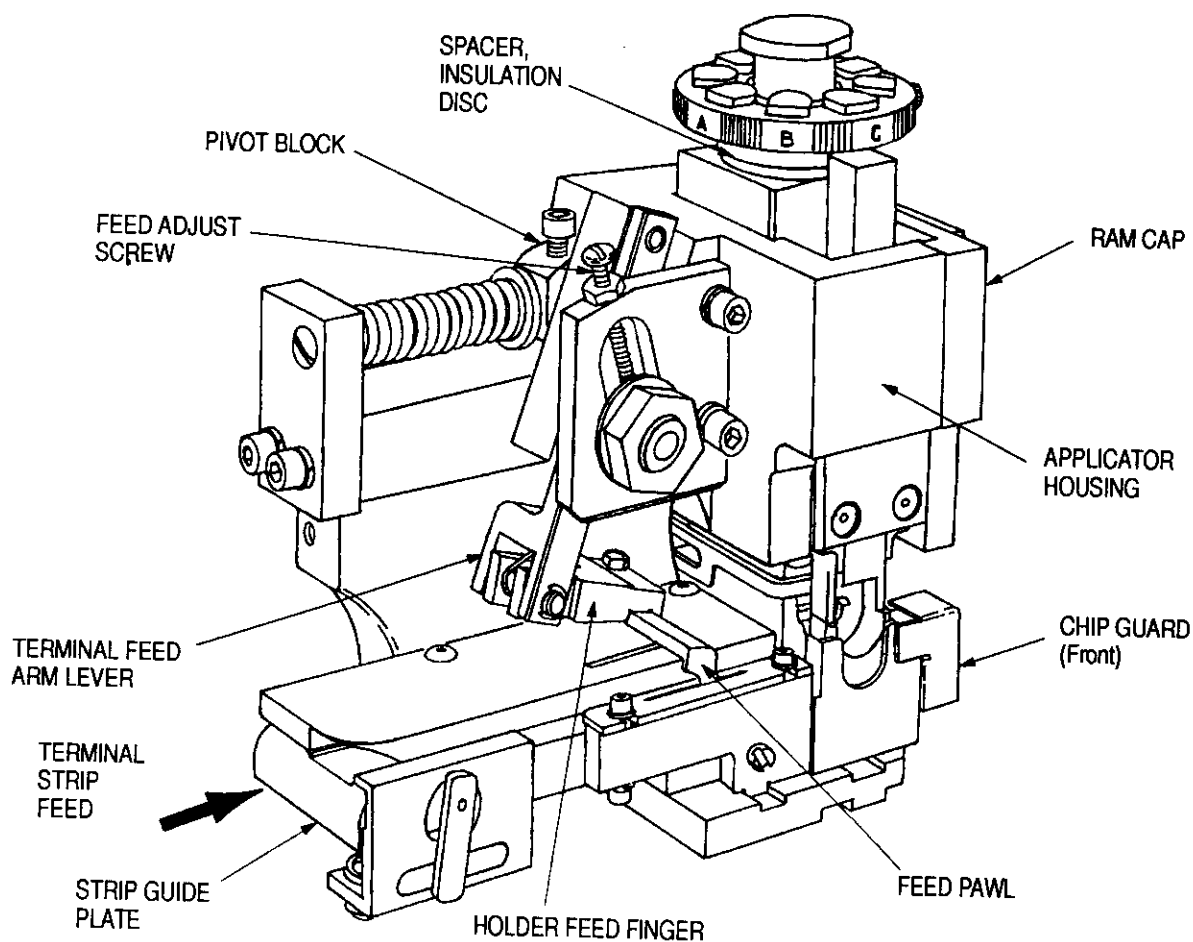

Figure 2
3. Loosen screw on top of pivot block (see Figure 2). Turn the stroke forward limit adjustment screw COUNTERCLOCKWISE to move the forward limit toward anvil, or CLOCKWISE to move the forward limit away from the anvil. Tighten screw on top of pivot block.
7. Loosen slightly the hex nut on side of applicator, to allow the pivot shaft to move in slot (see Figure 2).